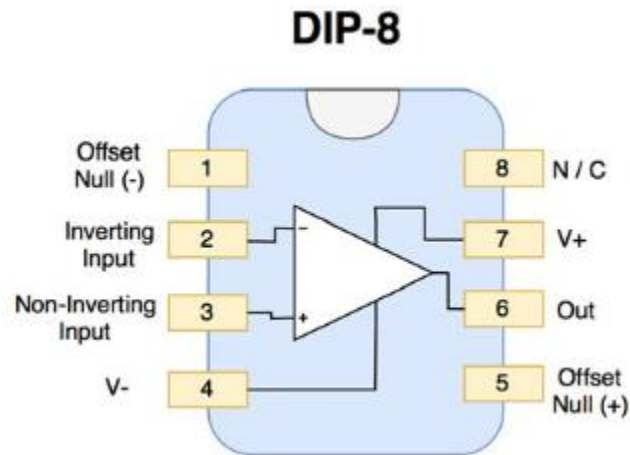

Fig.1.2. Pin diagram of 741 Op-Amp IC
There is no internal "ground" or "common" connection; voltages are measured relative to the common connection of the two power supplies. Pin diagram of 741 integrated circuit (IC) package is shown in Fig. 1.2.